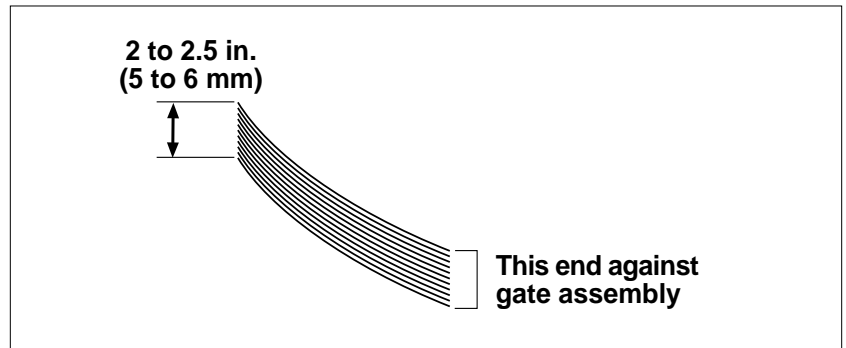
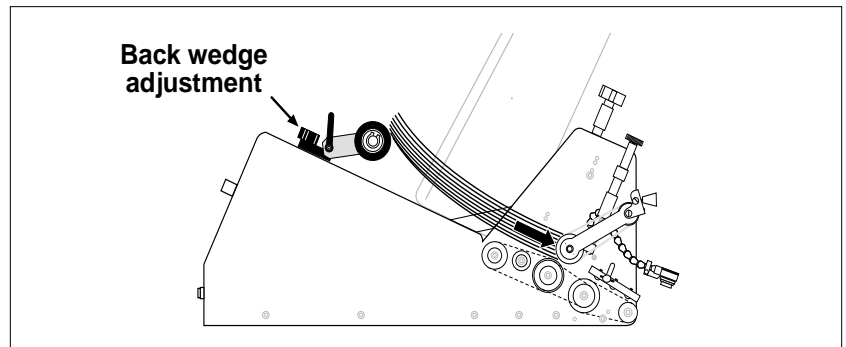

Figure 3-8. Preshingling a Small Stack of Material By Hand
Figure 3-9. Positioning Material Prior to Loosening Back Wedge
1. Grasp a handful of material, approximately 2 to 2.5 in. (5 to 6 cm) thick, and preshingle the edges with your thumb (Figure 3-8).
2. Place the preshingled material in the hopper so the edges rest against the curvature of the gate assembly (Figure 3-9).
3. Turn the back wedge wing-nut adjustment counterclockwise to loosen the wedge (Figure 3-9).
4. Move the back wedge forward and backward until the bottom sheet is not touching the table top (Figure 3-8). A good starting point is to measure about .625 in. (16 mm) from the bottom sheet to front edge of table top. Then as you test, you can “fine-tune” from this point. You can also fine-tune back wedge location by loosening the roller swivel wing-nut to pivot the rollers back and forth (Figure 3-9).